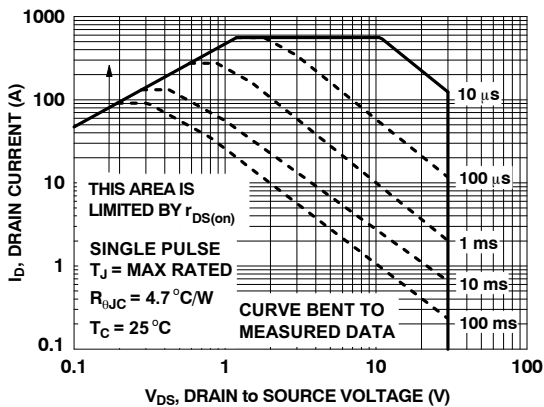

Figure 13. Forward Bias Safe Operating Area
2. Pulse  $I_D$  refers to Figure 13 Forward Bias Safe Operating Area.